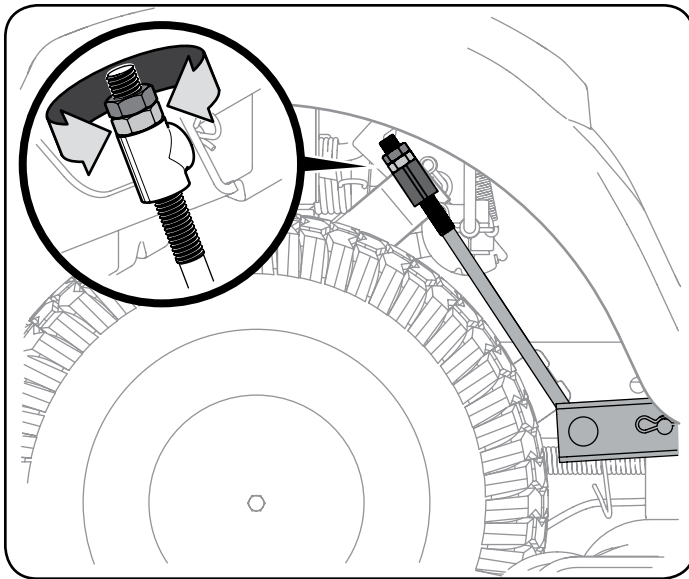

Figure 21
3. Under the rear fenders inside the wheels there is a lift adjustment rod for each side of the deck. See Figure 21.